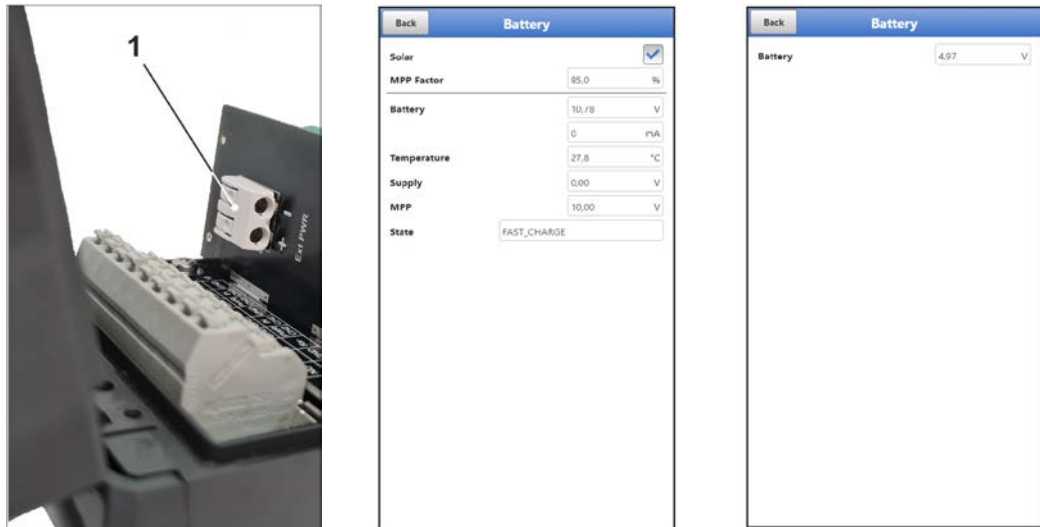

Fig. 27-1 Voltage terminals 12 V / menu battery rechargeable battery version/battery version
3. Connect the wires to the 12 V voltage terminals (Fig. 27-1 Pos. 1).